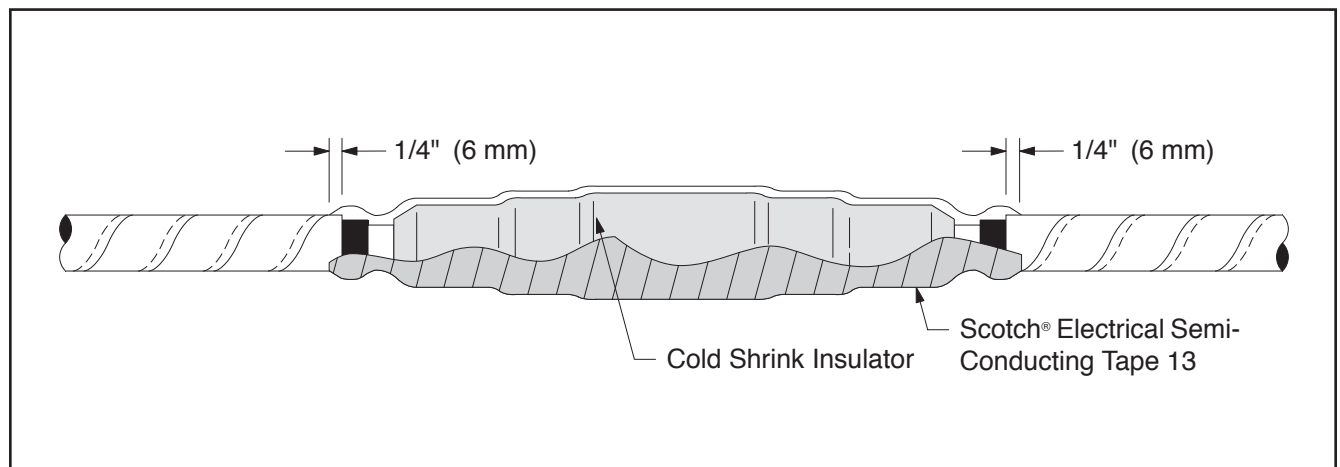

Figure 15
- b. Apply 1 half-lapped layer of Scotch® Electrical Semi-Conducting Tape 13 over insulation, starting and ending 1/4"-(6 mm) onto the cable's metallic shielding (Figure 15).